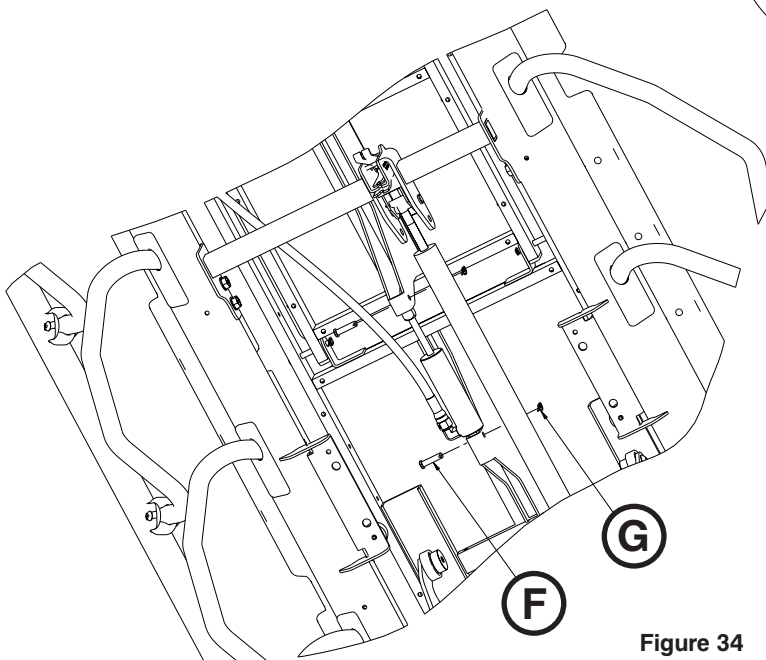

Figure 34
3. Using needle nose pliers, remove the two rue ring cotters (G) and two clevis pins (F) that connect the hydraulic cylinder to the seat section and the thigh section (Figure 34). Remove the valve body assembly.